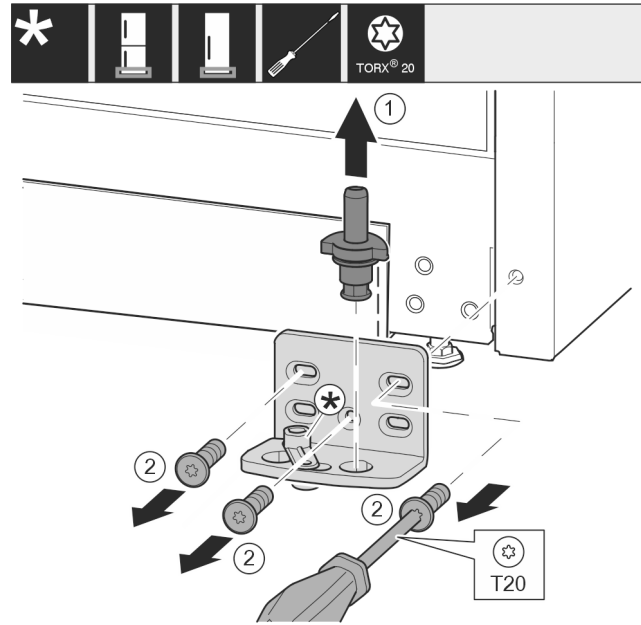

Fig. 8
- Lift the bearing pin completely upward and pull it out. Fig. 8 (1)
- Take out the screws with a T20 screwdriver and take off the bearing bracket. Fig. 8 (2)